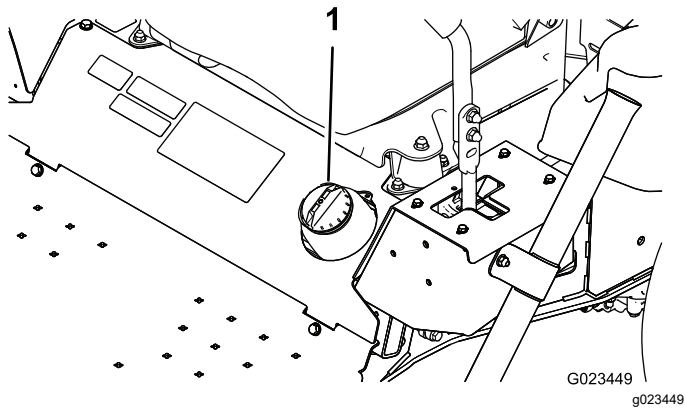

Figure 13
2. Clean the area around the fuel-tank cap (Figure 13).